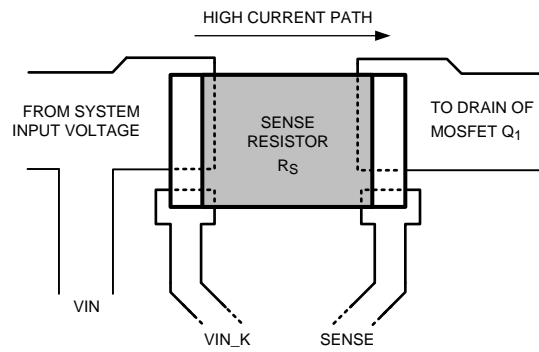

图 50. Sense Resistor Connections
5. The sense resistor (R_{SNS}) should be placed close to the LM5066. A trace should connect the VIN pad and Q_1 pad of the sense resistor to VIN_K and SENSE pins, respectively. Connect R_{SNS} using the Kelvin techniques as shown in 图 50.
9. The board's edge connector can be designed such that the LM5066 detects through the UVLO/EN pin that the board is being removed, and responds by turning off the load before the supply voltage is disconnected. For example, in 图 50, the voltage at the UVLO/EN pin goes to ground before V_{IN} is removed from the LM5066 as a result of the shorter edge connector pin. When the board is inserted into the edge connector, the system voltage is applied to the LM5066's VIN pin before the UVLO voltage is taken high, thereby allowing the LM5066 to turn on the output in a controlled fashion.